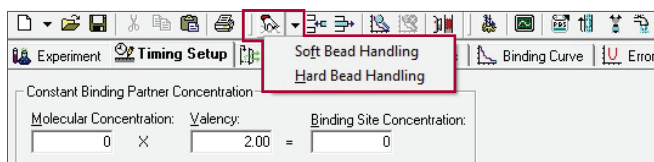

Figure 2. Selecting the bead handling from the tool bar.
- Under the Timing Setup Tab, select the appropriate bead type from the tool bar (**Figure 2**).